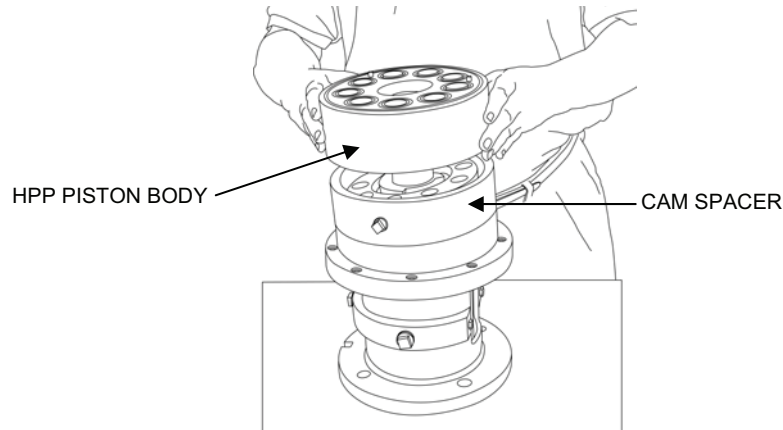

Figure 5. Piston Body Removal.
- j. Remove the body (see Figure 5).